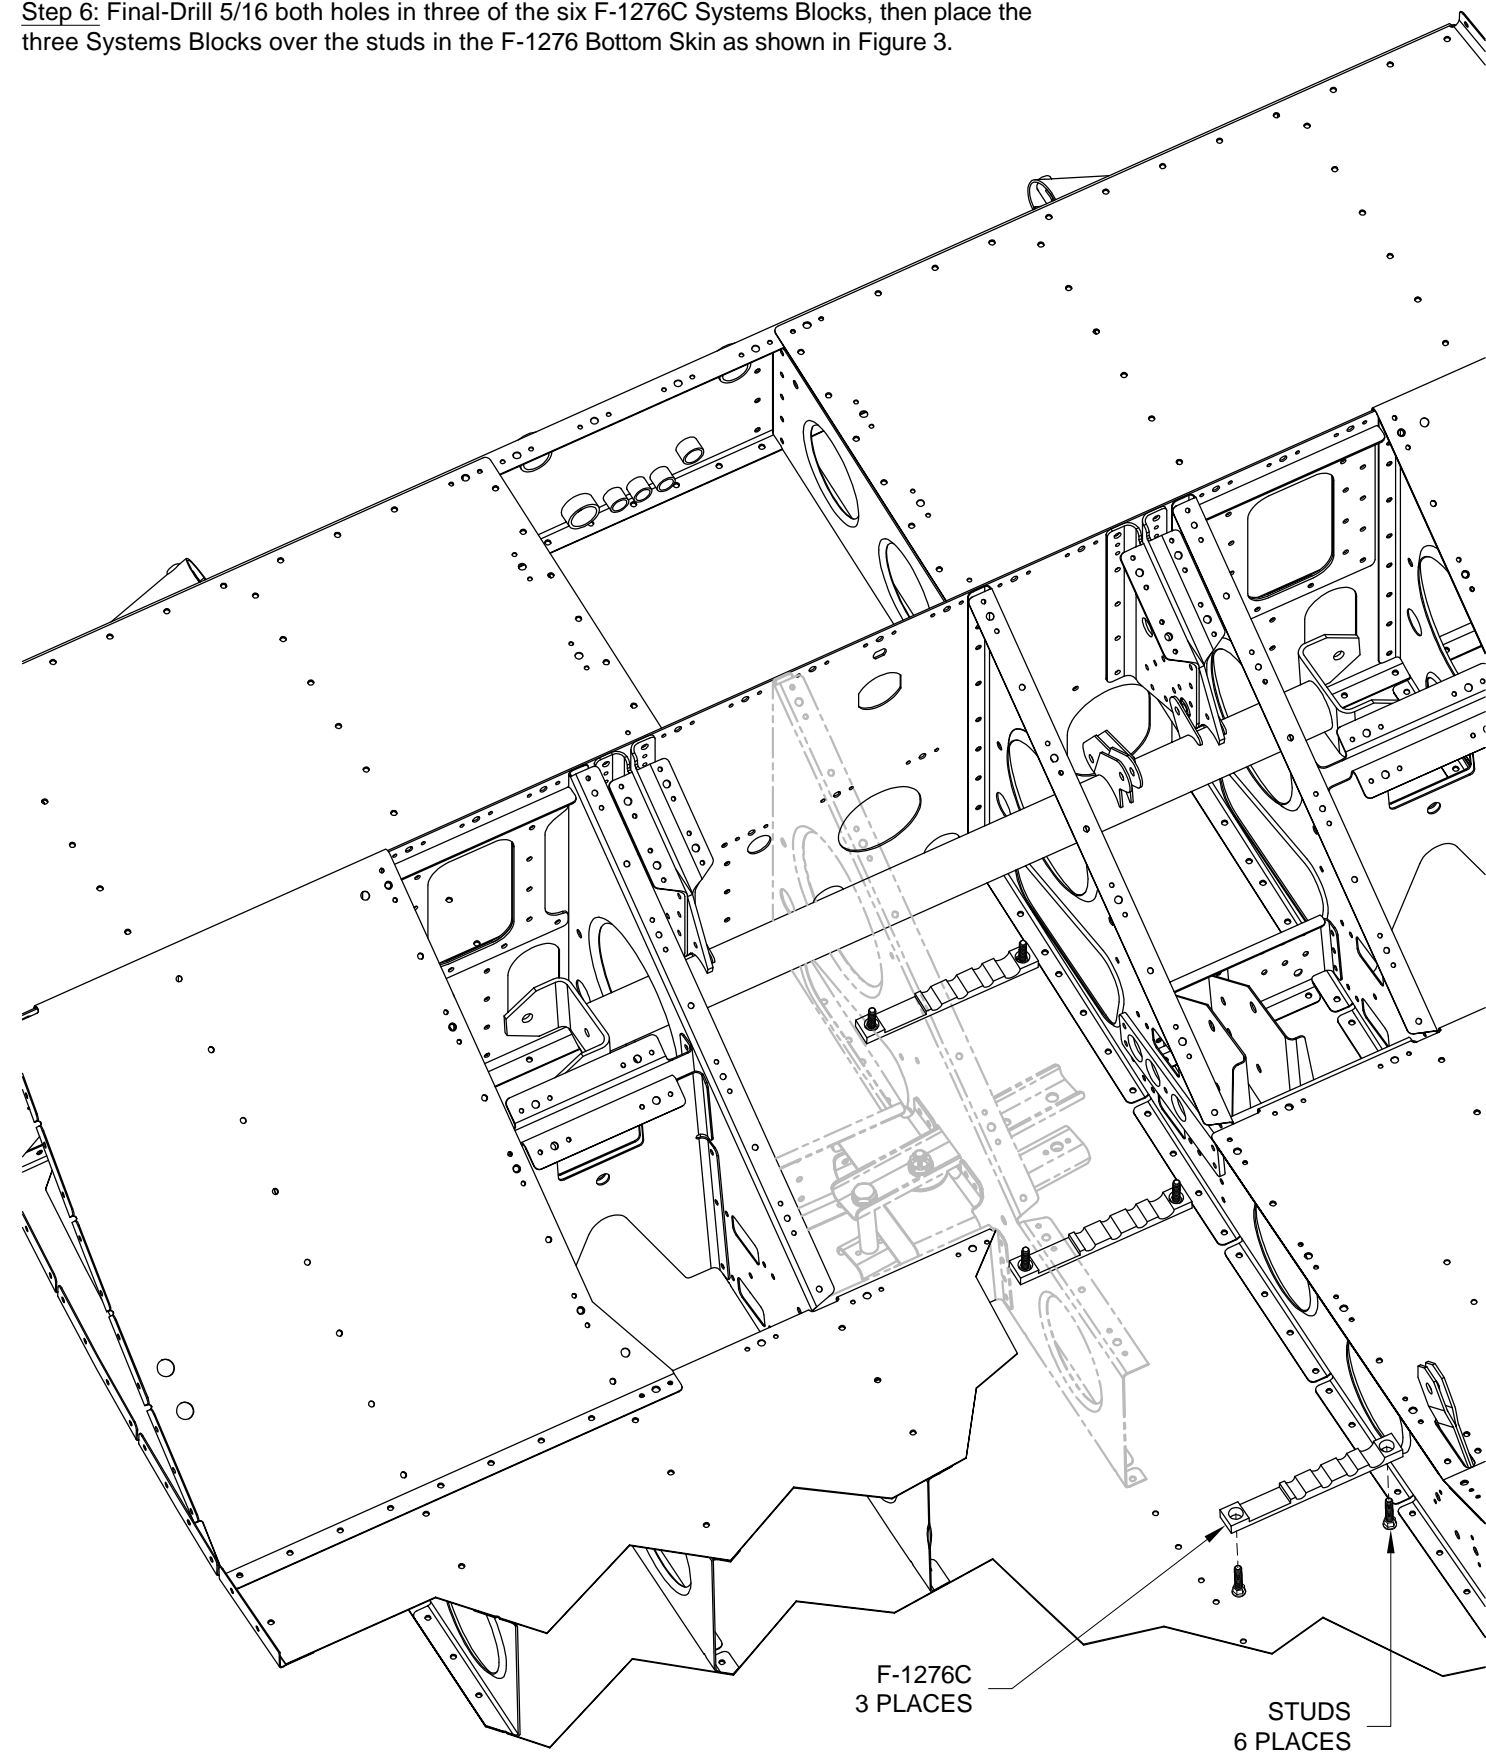

FIGURE 3: INSTALLING SYSTEMS BLOCKS
Step 6: Final-Drill 5/16 both holes in three of the six F-1276C Systems Blocks, then place the three Systems Blocks over the studs in the F-1276 Bottom Skin as shown in Figure 3.